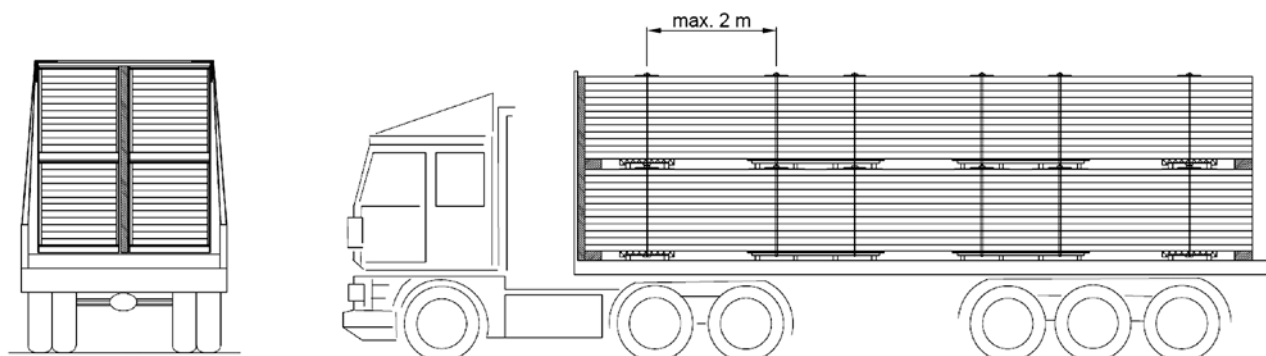

Fig. 1. A way of placing panels on transport means.
- Packages transported by truck can be piled into max. two layers – see fig. 1 (it does not apply to panels with stainless steel facings, which cannot be piled).